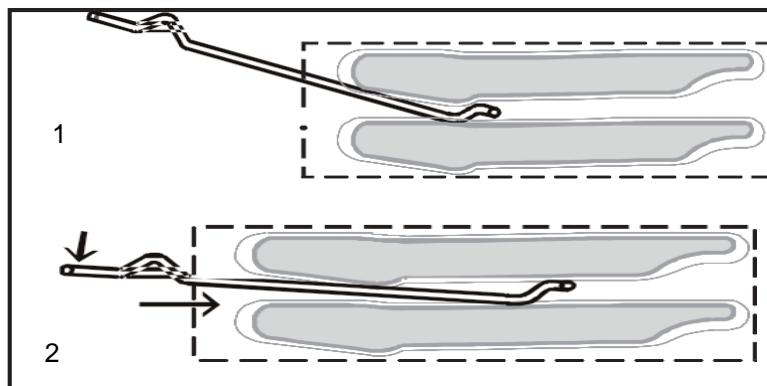

Fig. 3
**To replace an oven rack in the oven (See fig. 3):**